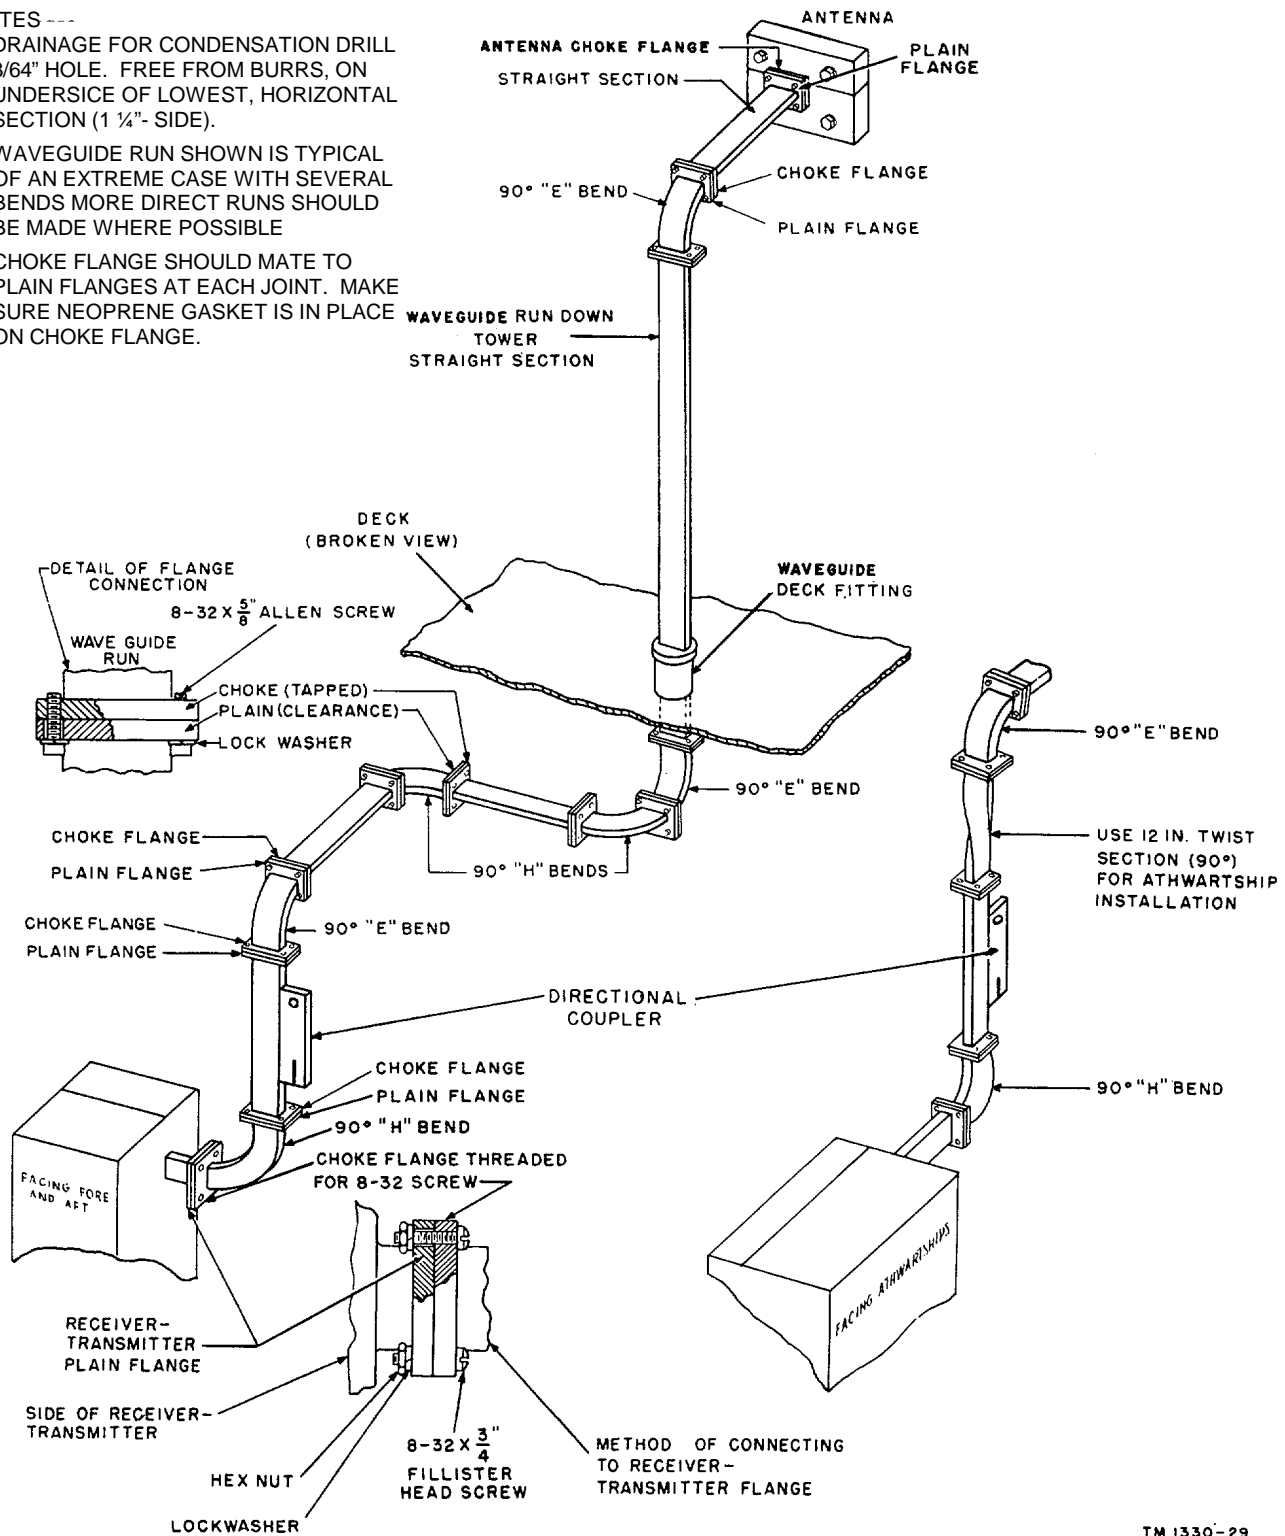

Figure 42. Typical waveguide run.
- (1) Starting at the antenna (fig. 42), use a straight section to run the waveguide aft horizontally.
- (2) Use a 90°E bend to change the direction to downward.
- (3) Use straight sections to run the waveguide downward.
- (4) Use a 90°E bend to change the direction to forward or aft as required.
- (5) Use a 90°H bend to run the waveguide athwartships, if necessary.
- (6) Run the waveguide forward or aft, as required, by installing a short straight section followed by a 90°H bend.
- (7) Install a straight section, followed by a 90°E bend, to direct the waveguide down toward the side of the receiver-transmitter.
- (8) A twist or a straight section may be required to bring the waveguide run to the directional coupler. If the front cover of the receiver-transmitter faces forward or aft, install a straight section. If the front cover of the receiver-transmitter faces either beam, install a twist section.
- (9) Install the 1-foot directional coupler, close enough to the receiver-transmitter to allow a 90°H bend to be used.
- (10) Use a 90°H bend to connect the directional coupler to the duplexer waveguide (fig. 42).
Note. For purposes of illustration, numerous bends are shown in figure 42. In actual installations, the waveguide run must be as short and straight as possible.